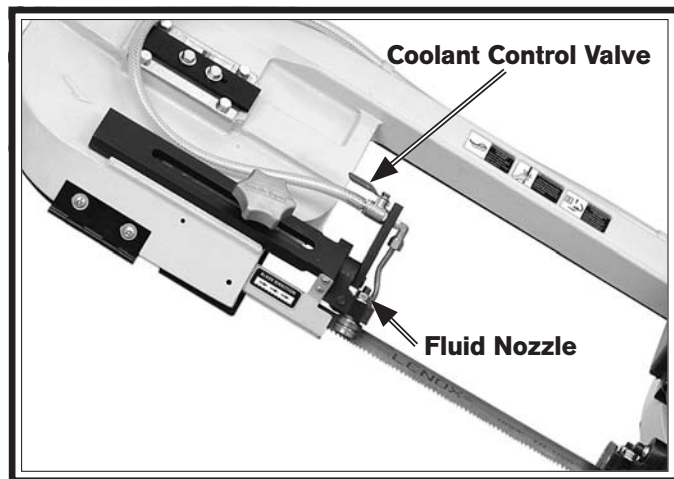

Figure 35. Coolant control valve.
4. Adjust the valve on the coolant hose to control the flow of coolant (see **Figure 35**). Make sure that the pressure is not so high that coolant spills on the floor and creates a slipping hazard.